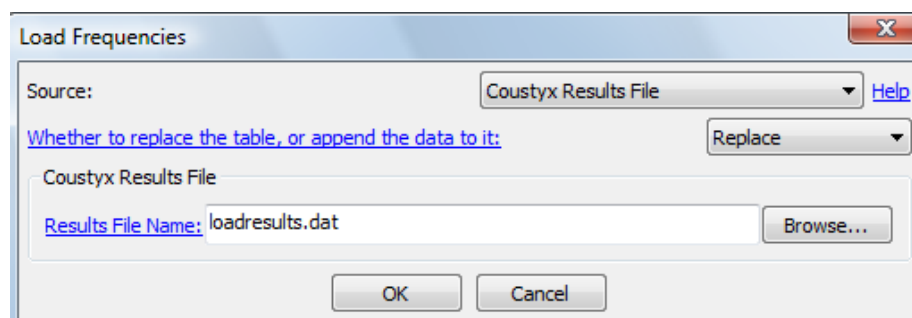

Figure 7.17 Load frequencies from Coustyx Results file window.
7.2.2.1. Coustyx Results File Analysis frequencies could be loaded from Coustyx binary results file using this option (Figure 7.17). Refer to Section 7.3.1.5 on how to create Coustyx binary results file.